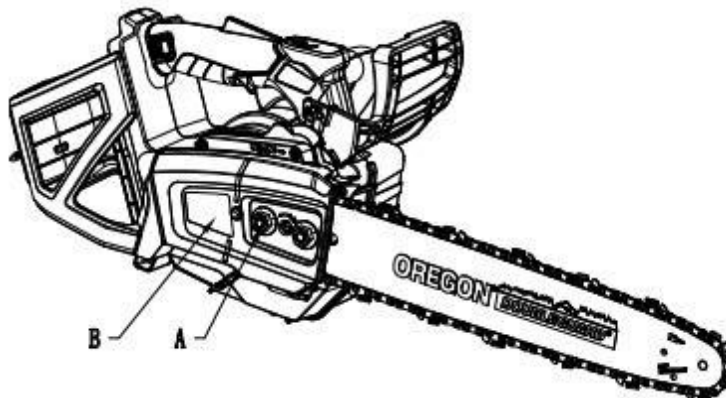

Fig 8
5. Tighten sprocket cover nut (A) to install the sprocket cover (B) (Fig 8).